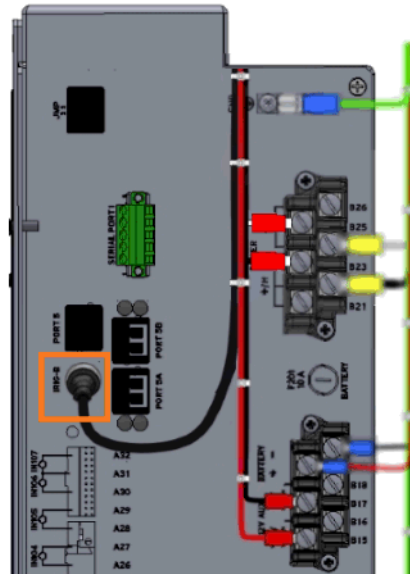

Figure 16 Connect IRIG Cable
Step 26. Route the SEL-2401 communications cable down the other side of the unit and attach it to the IRIG-B port. See *Figure 16*.